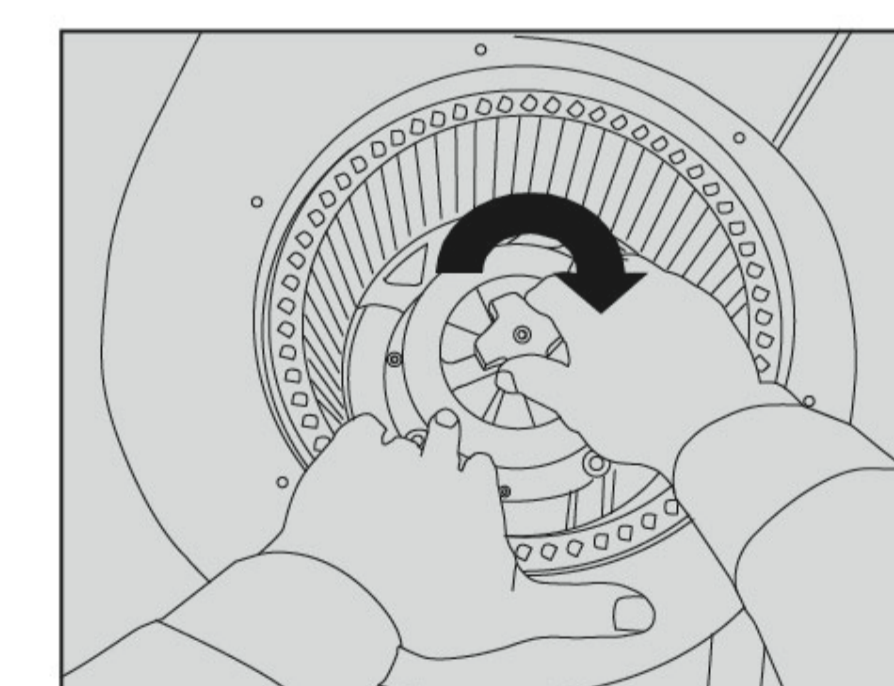

Fig.12
6. Turn the locknut clockwise, and disassemble the impeller. (Fig. 12)